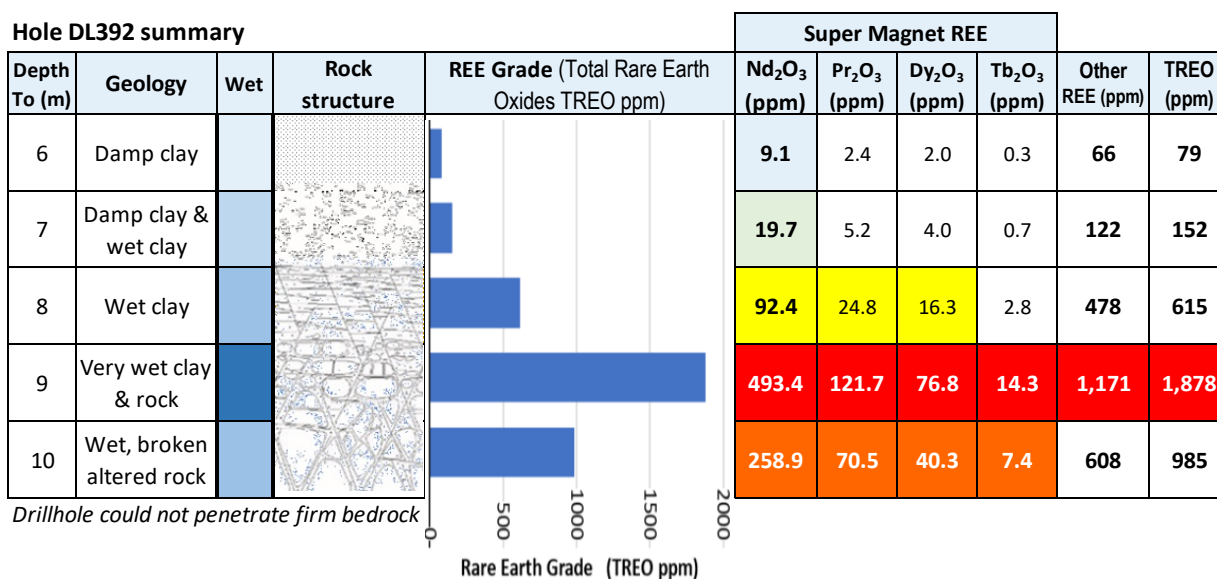

Figure 2: Drill log and REE grades of the mineralised intercept in hole DL392
- Hole DL392 returned a grade of **493 ppm Nd₂O₃**, our highest neodymium grade to date from the Deep Leads discovery and had 1,878 ppm total rare earths oxide (TREO) – see Figures 2 & 3